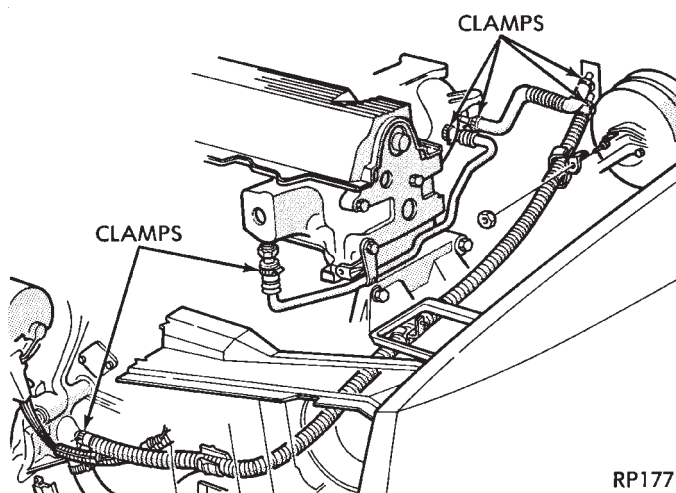

Fig. 8 Heater Hose Routing—2.2 L, 2.5 L Engines—Typical
- (1) Drain engine cooling system. Refer to Group 7, Cooling System.
- (2) Loosen clamps at each end of hose to be removed (Figs. 8 or 9).
- (3) Carefully rotate hose back and forth while tugging slightly away from connector nipple.